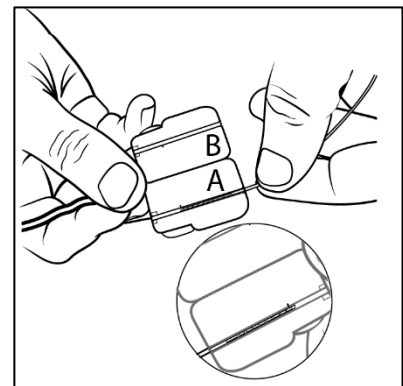

Figure 7 Connecting to the lead(s)
11. While holding the Lead in place, connect the Electrode Interface Cable to the proximal end of the Lead(s) by opening the hinged lid(s) on the cable and inserting the proximal end of the Lead(s) into the access port on the side of the lid. Verify that the Lead is fully inserted in the cable through the visual observation port on the top of the hinged lid(s), then close the lid until it snaps shut. If using one lead, connect lead to the bottom access port A; see figure 7. Please use caution when opening the Electrode Interface Cable. Only one side of the lid should be opened at a time and the lid opens just far enough to allow insertion of the lead. Trying to open both sides simultaneously increases the risk of breakage.